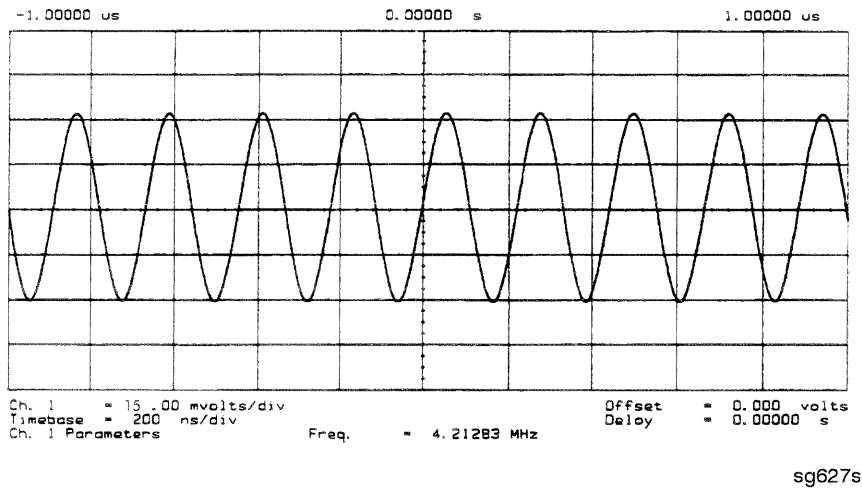

Figure 7-26. Typical 1st IF Waveform in FRACN TUNE/SRC TUNE Mode
1. Remove the A4-to-A11 SMB cable from the A4 (R) sampler/mixer output. Connect the oscilloscope to the A4 output (1st IF).
4. Set the SRC TUNE frequency to those listed in Table 7-7 and observe the 1st IF waveforms. They should appear similar to Figure 7-26.